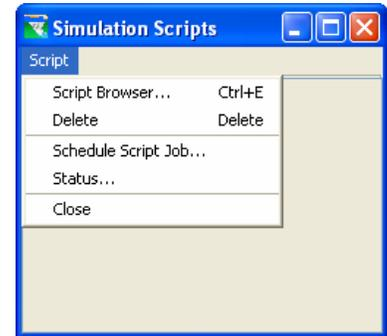

Figure 14.75 Script Menu
3. From the **Tools** menu in the Simulation module, select **Scripts....** From the **Script** menu in the **Simulation Scripts** window, you can choose from the following options (as shown in Figure 14.75):